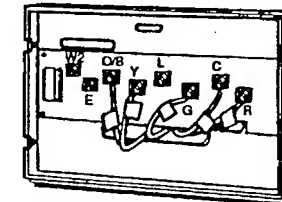

Figure 3. Subbase with typical wiring.
5. Connect wires to the appropriate terminals on the subbase. See figs. 3 through 6 to match the tagged wires with the correct terminals.